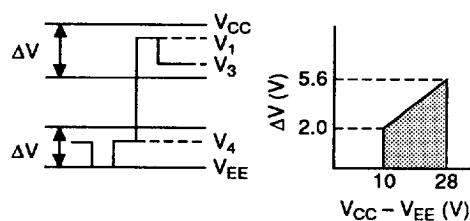

Figure 3 Relationship between Driver Output Waveform and Level Voltages
2. Describes the voltage range for the liquid-crystal drive level power supply. A voltage near V_{CC} is supplied to V_1 and V_3 . A voltage near V_{EE} is supplied to V_4 . Use within the range of ΔV for each. These ranges should be set so that the impedance ROM of the driver output obtained is stable. Note also that ΔV depends on the power supply voltage ($V_{CC} - V_{EE}$). See figure 3.